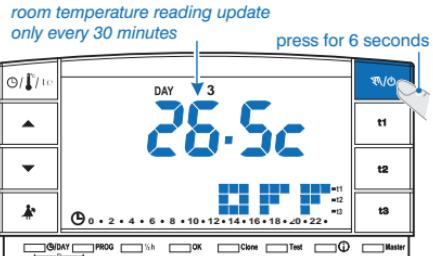

fig. 59
- Keep “ OFF” pressed (approx 6 sec.) to enable this function, until OFF appears on the display to indicate that the chronothermostat has been disabled (e.g. fig. 59).